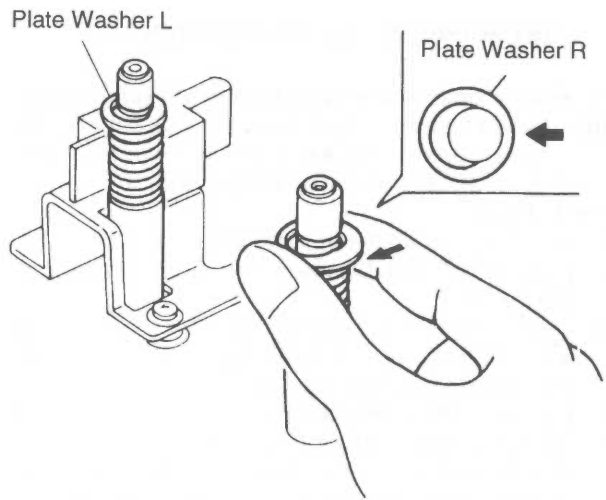
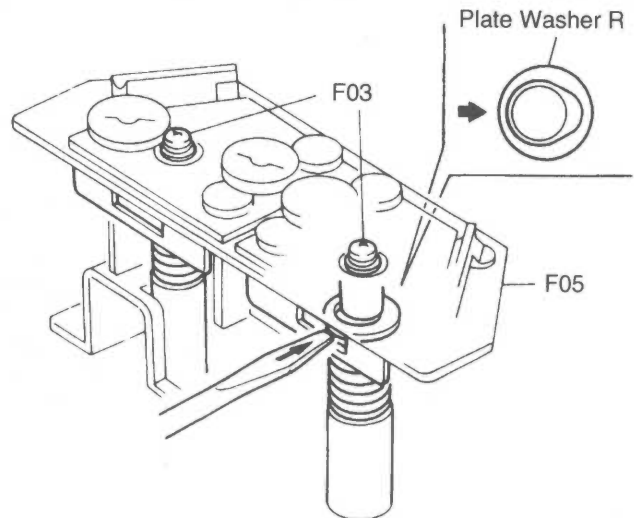

Fig. 2.2
Fig. 2.3
- (1) Insert the Plate Washers into the grooves of the shafts by hand. Refer to Fig. 2.2.
- (2) Insert F05 (Head Mount Base Ass'y) and fasten screws F03 (2 pcs.).
- (3) Push the Plate Washers with a blade of the screwdriver so that the Plate Washers come off the grooves. Refer to Fig. 2.3.
- (4) Attach F02 (Head Mount Cover) with screws F01 (2 pcs.)